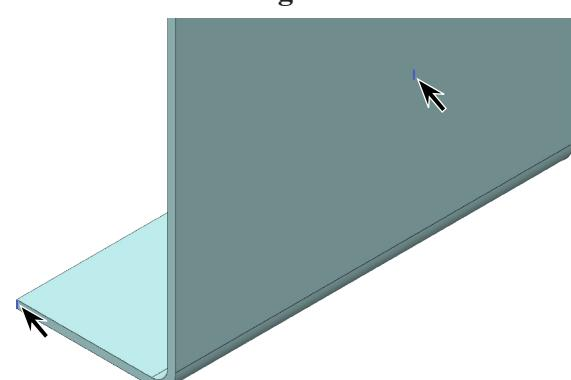

Fig. 32
Step 4. Click **both vertical corner edges**, Fig. 32.